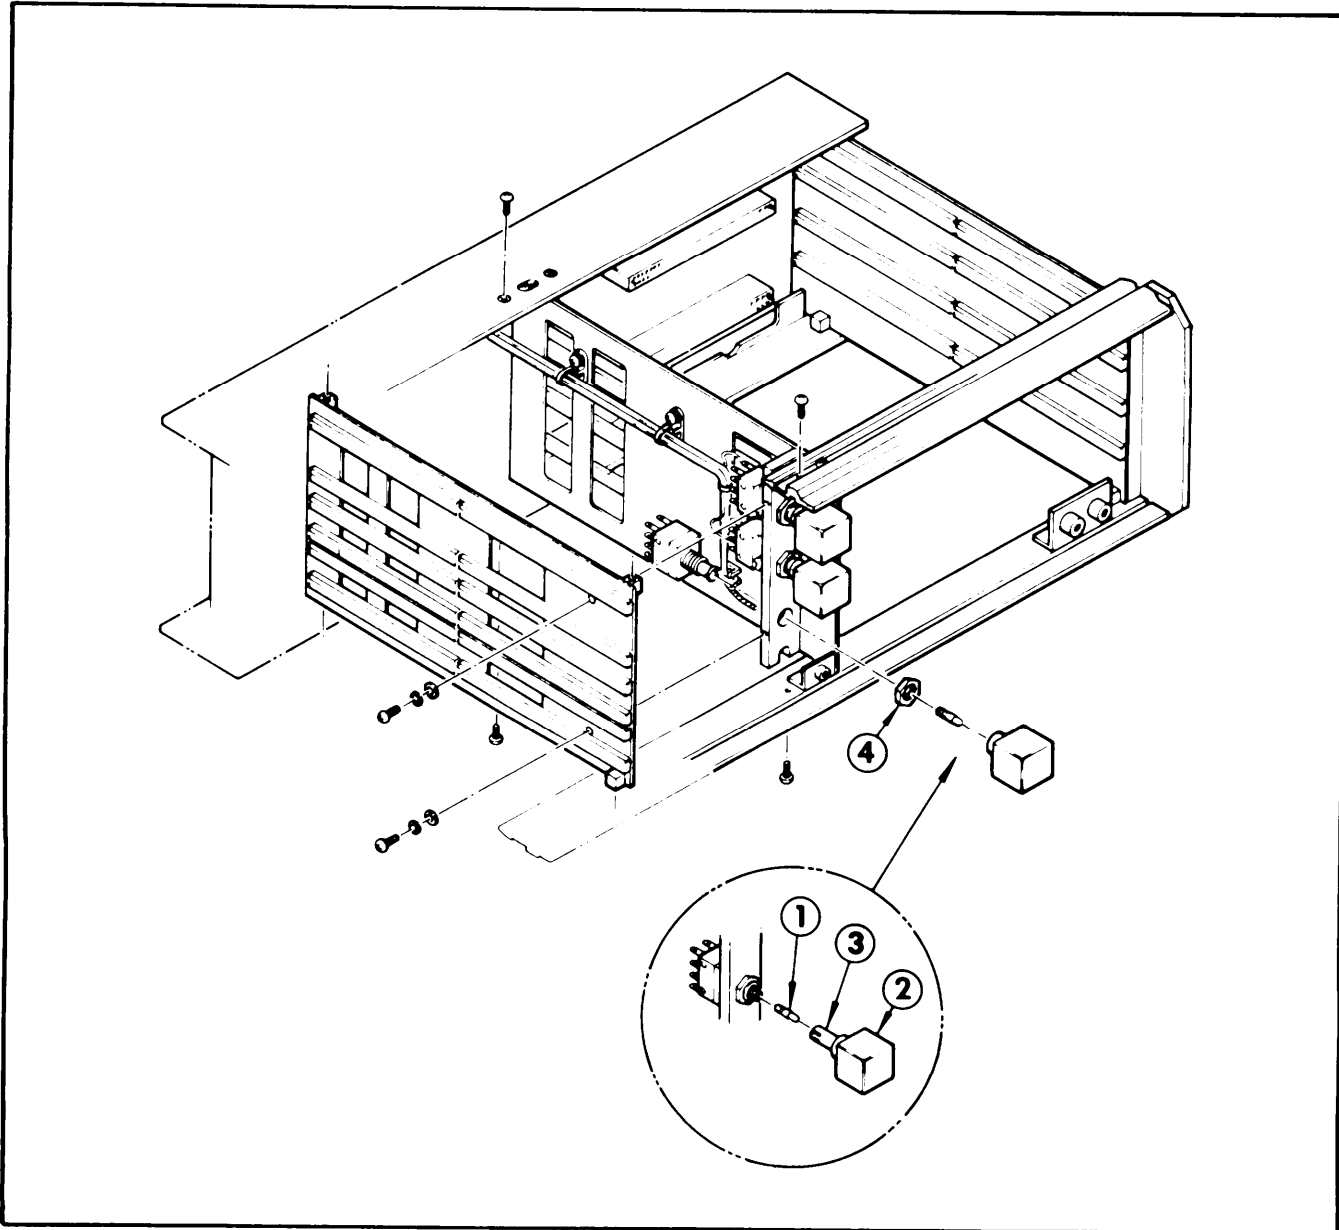

Figure 5-2. Power/STOP Switch Assembly
The TRANSPORT and SYSTEM power switches and the STOP switch indicators contain a +28 volt screw base lamp (1). (See Figure 5-2, Power/STOP Switch Assembly.)
2. Pull the indicator cover (2) straight out. The lamp shield (3) may be removed with the cover.
To replace the power/STOP switches, only the left-center card guide panel (12) is to be removed. See Figure 5-2, Power/STOP Switch Assembly.
6. Remove the left-center card guide panel (12) by removing 2 attaching screws located on the top and 2 attaching screws located on the bottom. Remove 2 attaching screws and washers on the side of the card guide panel. (See Figure 5-2, Power/STOP Switch Assembly, for attaching hardware location.)
10. Remove the large hex nut (4) on the front of the switch assembly. The defective switch assembly can now be removed from the rear of the attaching frame.
1. Insert the switch assembly from the back side of the mounting frame. (See Figure 5-2, Power/STOP Switch Assembly.)
2. Install the large hex nut (4) from the front side of the mounting frame.
3. Install the switch lamp cover (2) and shield (3). (See paragraph 5-14, Power and STOP Switch Lamp Replacement.)
5. Reattach the card guide frame and attach with 2 top screws and 2 bottom screws. (See Figure 5-2, Power/STOP Switch Assembly.)